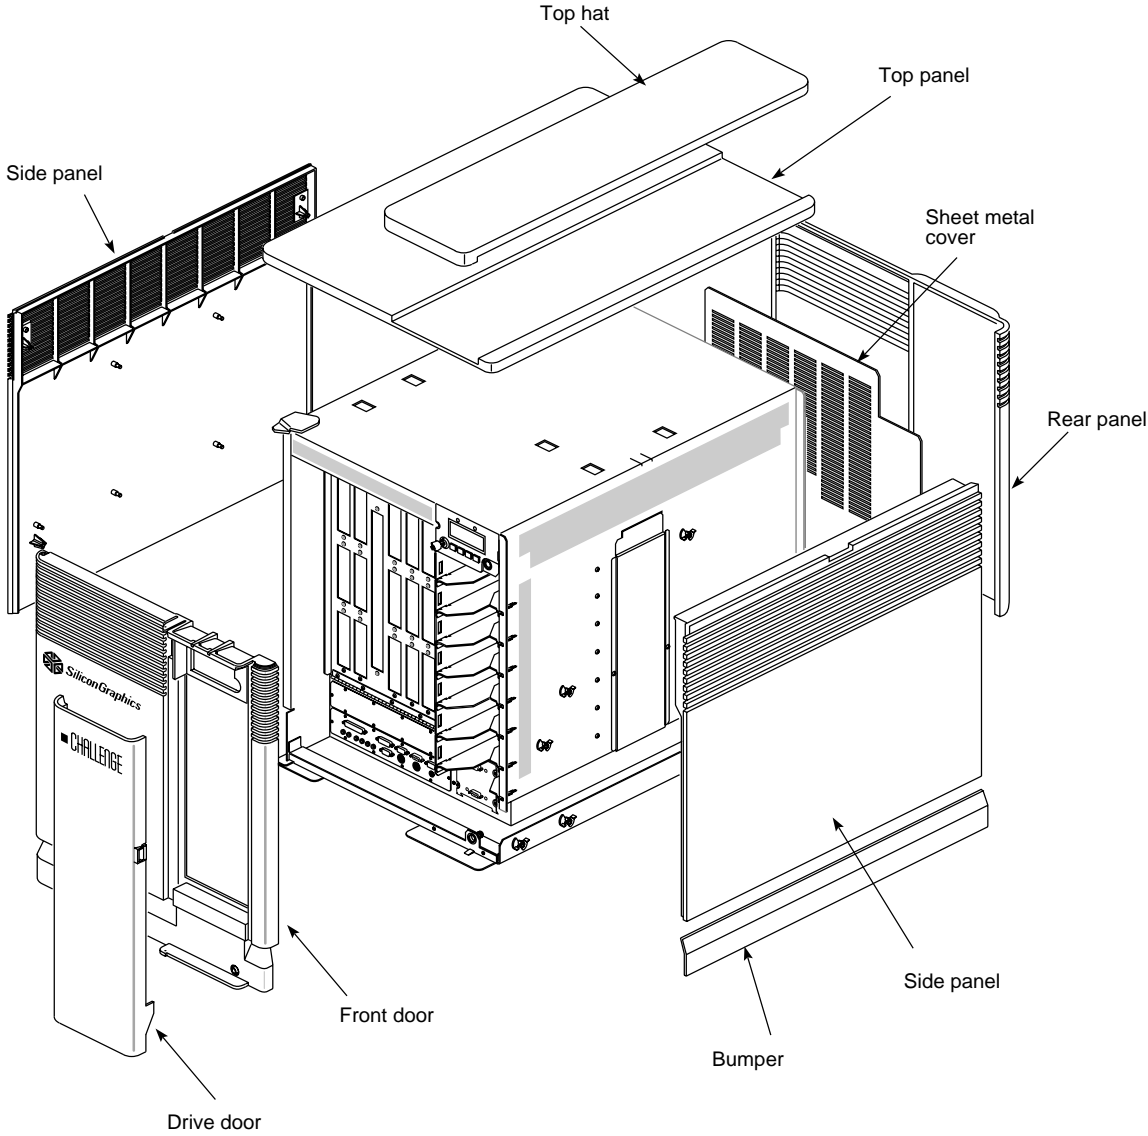

Figure 3-1 Challenge Deskside Components
Figure 3-1 shows user-accessible system components.
2. You can install the cable by pushing it through the gap between the top of the plastic bumper and the bottom of the side panel (see Figure 3-1). Alternately, you can push the cable into the cable trough on the lower left side of the system; repeat as necessary. Feed the cable in until it reaches the front of the system.